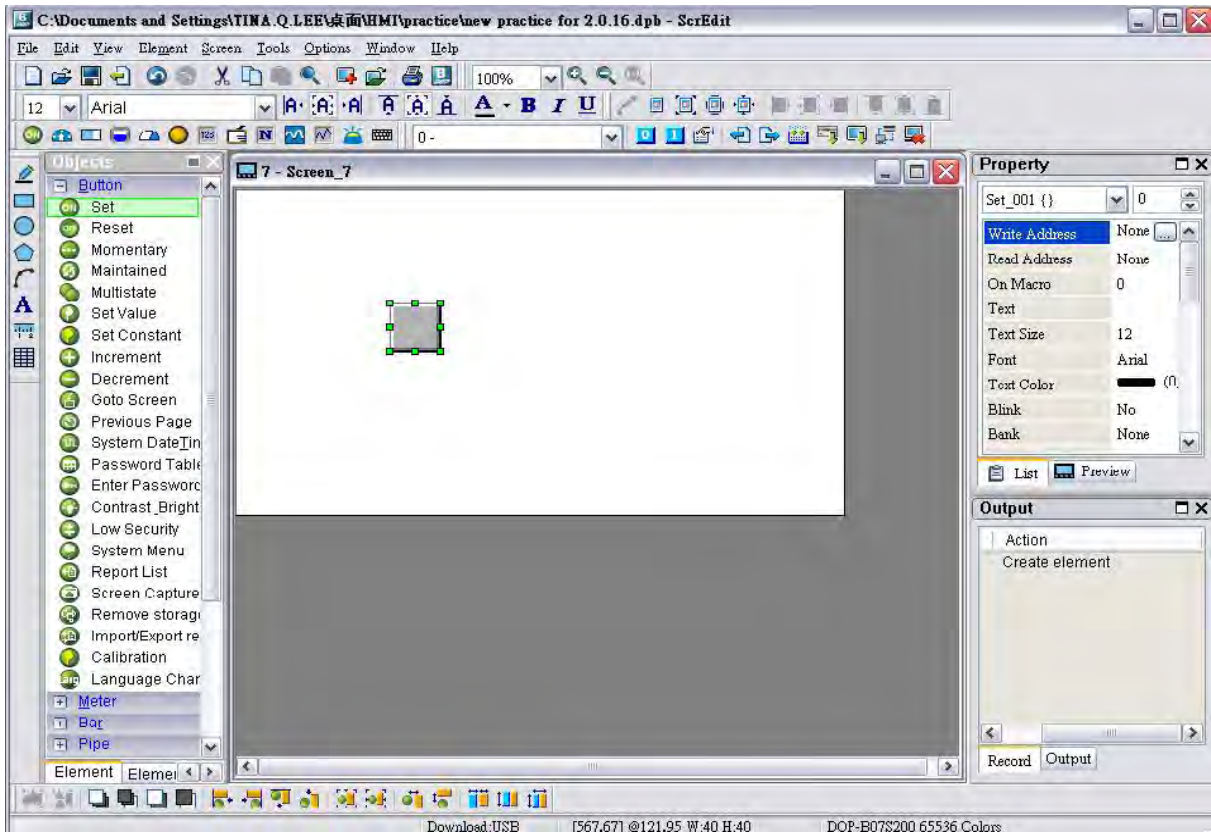

Fig. 3-8-4 Choose Element icon from Object dialog box
4. Choose Element icon from Object dialog box as Fig. 3-8-4